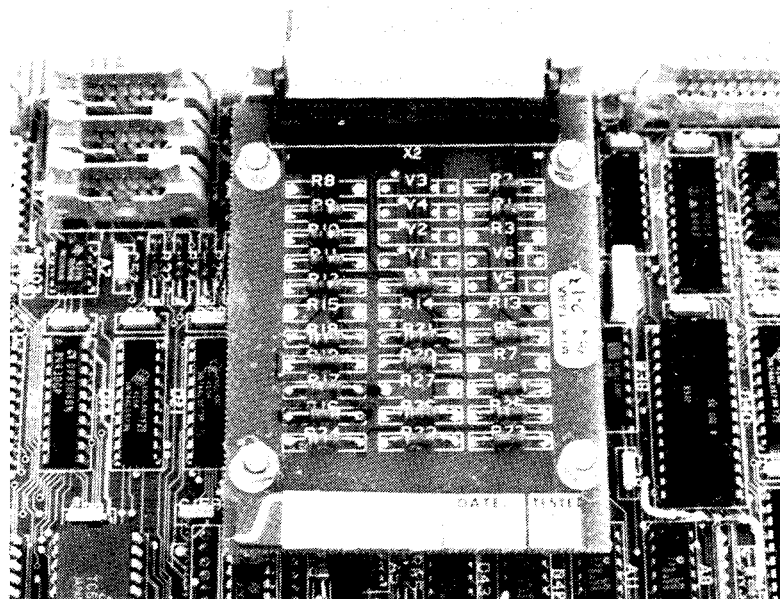

Figure 3-30. Matching Card
- 3-2.4.8 Matching Card. (SAFT 050 F460/3501-050)** - The Matching Card (Fig. 3-30) is mounted on the Control Card and provides a matching circuit for the intermediate circuit voltage (UC1) and inverter phase currents (IU1,IV1) based on the KVA rating of the drive.